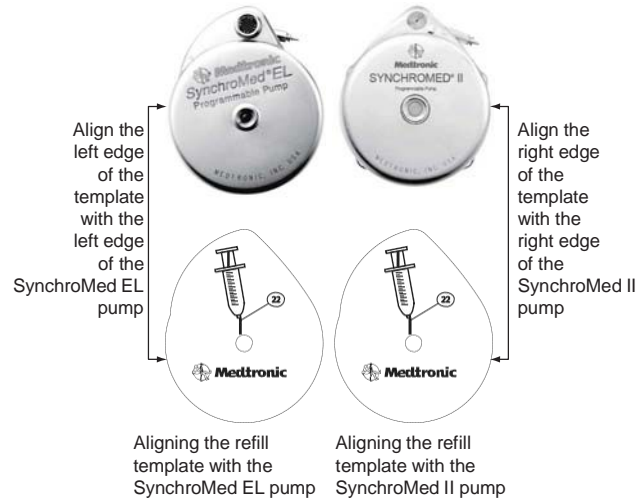

Figure 2. Aligning the refill template according to the pump model.
6. Place the template on the skin over the pump, and align the refill template correctly based on the model of the pump that is being refilled (Figure 2). Align the edges of the template with the edges of the pump.